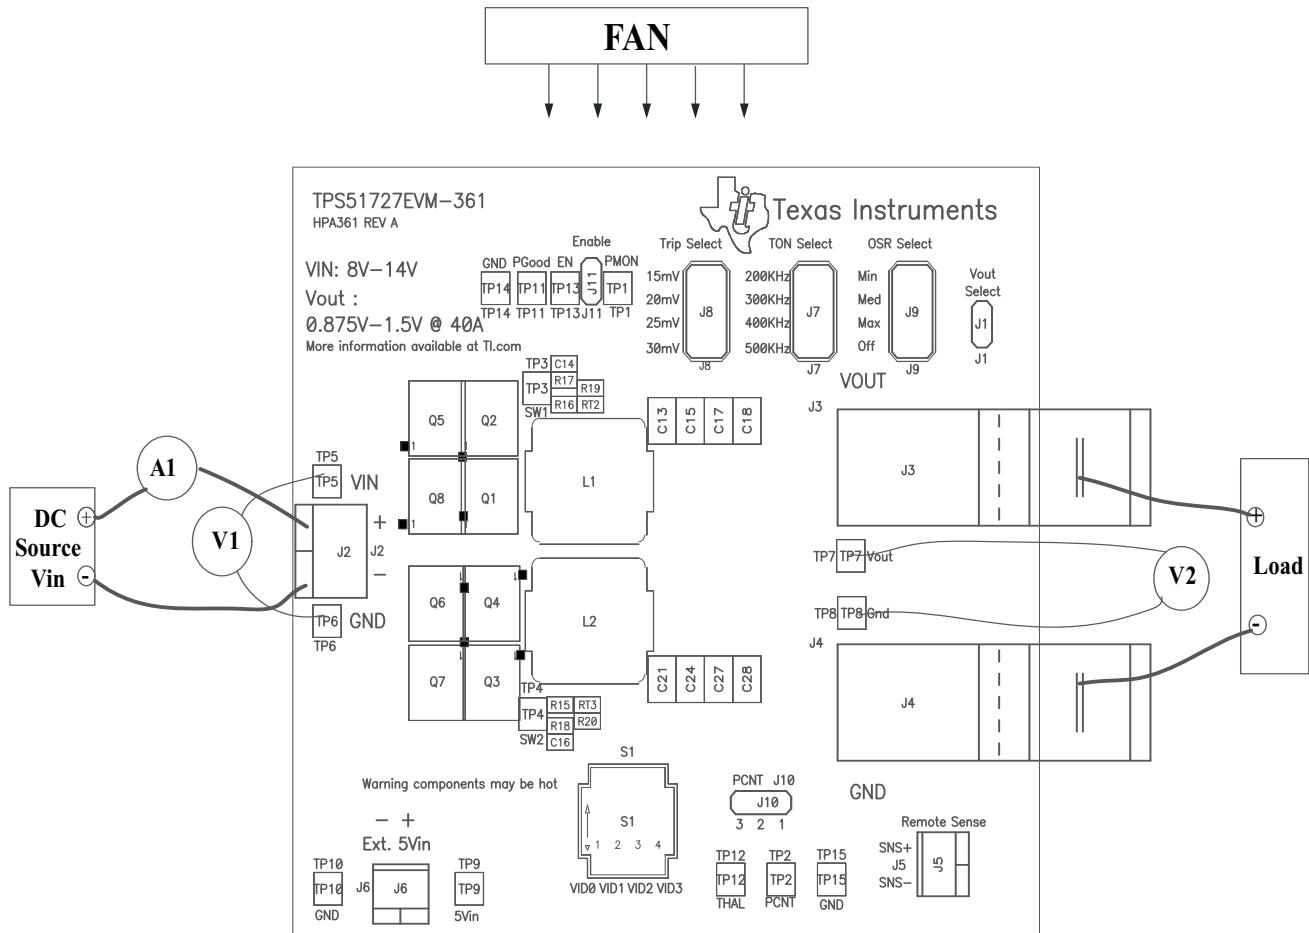

Figure 4. TPS51727EVM Recommended Test Setup
Voltage Source: The input voltage source V_{in} must be a 0-V to 14-V variable dc source capable of supplying 20 Adc. Connect V_{in} to J2 as shown in Figure 4.
Multimeters: A 0-V to 14-V voltmeter must be used to measure V_{in} at TP5 (V_{in}) and TP6 (GND). A 0-V to 5-V voltmeter must be used for V_{out} measurement at TP7 (V_{out}) and TP8 (GND). A 0-A to 20-A current meter (A1) as shown in Figure 4 is used for input current measurements.
Figure 4 is the recommended test setup to evaluate the TPS51727EVM. Working at an ESD workstation, ensure that any wrist straps, bootstraps, or mats are connected, referencing the user to earth ground before power is applied to the EVM.
1. Prior to connecting the dc input source Vin, it is advisable to limit the source current from Vin to 15 A maximum. Ensure that Vin is initially set to 0 V and connected as shown in Figure 4.
Place a fan as shown in Figure 4 and turn it on, ensuring that air is flowing across the EVM.